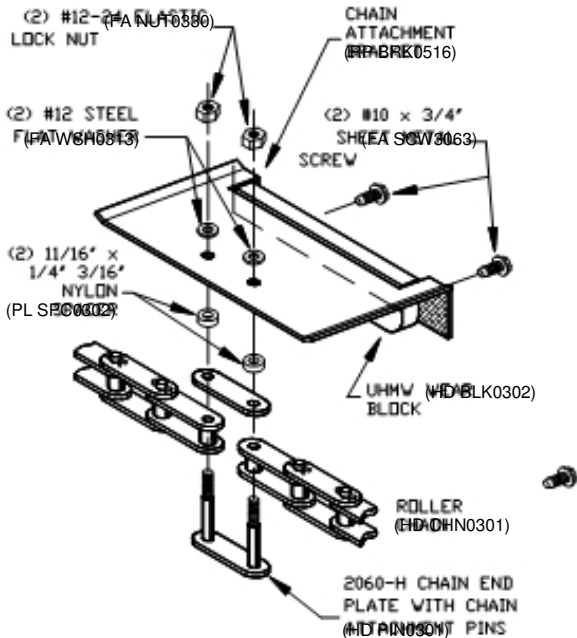

fig. 2
- E. If the tray carrier attachment brackets must be replaced, care must be taken when tightening the nuts which hold the brackets in place. Over-torquing the nuts could pull the shoulders off of the roller chain shafts [Refer to fig. 2].